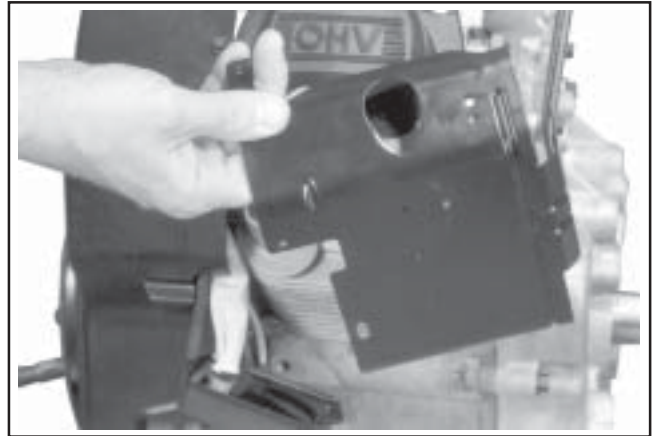

Figure 9-35. Removing Outer Baffles.
5. Remove the outer baffles on both sides. See Figure 9-35.